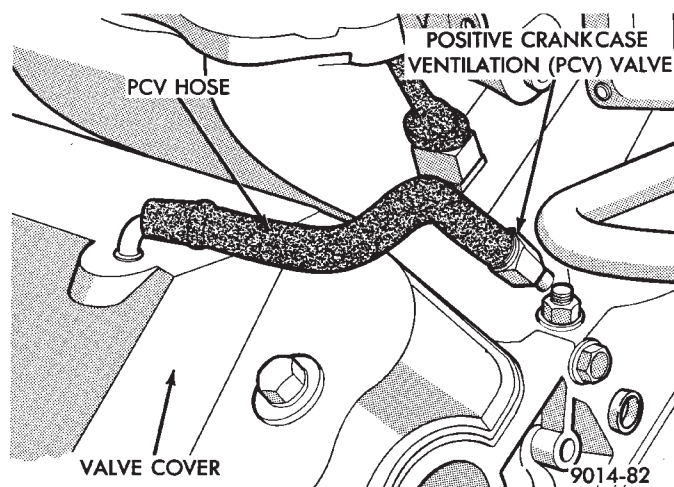

Fig. 8 PCV Valve—3.0L Engine
- (1) Warm engine in Park or Neutral until the cooling fan has cycled on and off at least once.
- (2) Ensure that all accessories are off.
- (3) Hook-up the timing check device and tachometer.
- (4) Disconnect the coolant temperature sensor and set basic timing to 12° BTDC $\pm 2^{\circ}$ BTDC.
- (5) Shut off engine. Reconnect coolant temperature sensor wire.
- (6) Disconnect the PCV valve hose from the PCV valve (Fig. 8).
- (7) Plug the PCV valve nipple.